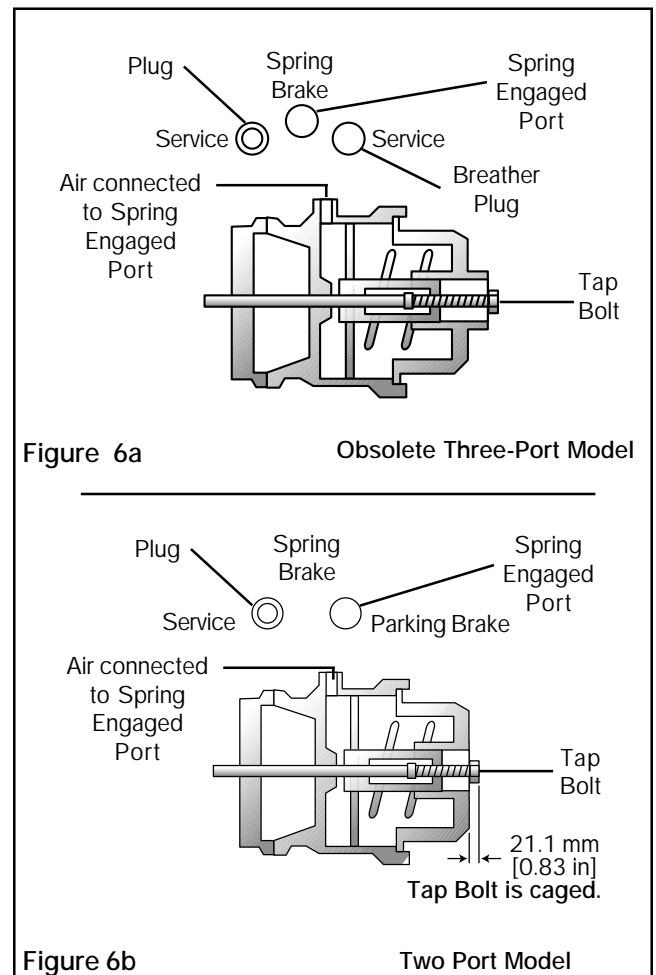

Figure 6a
- 3a. Using a 9/16 inch socket wrench, turn the tap bolt counterclockwise until the brake is released (approximately 40 turns). Hold-off air pressure can be removed at this time and service performed. (Refer to Figure 6a)